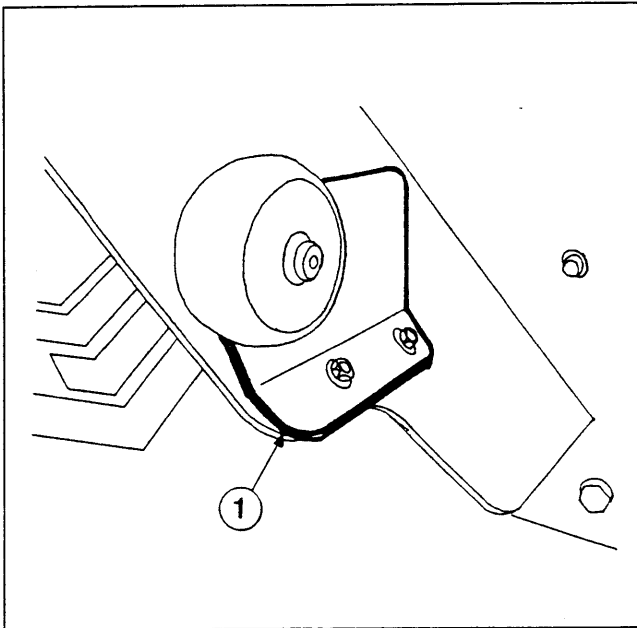

Figure 1
2. Take the left front deck stop (1) and position it where the factory deck-stop was removed in step 1. Bolt the stop to the fender using the factory hardware. Then, attach one of the deck stop wheels, removed in step 1, to the rear side of the stop using the factory hardware (see Figure 1).